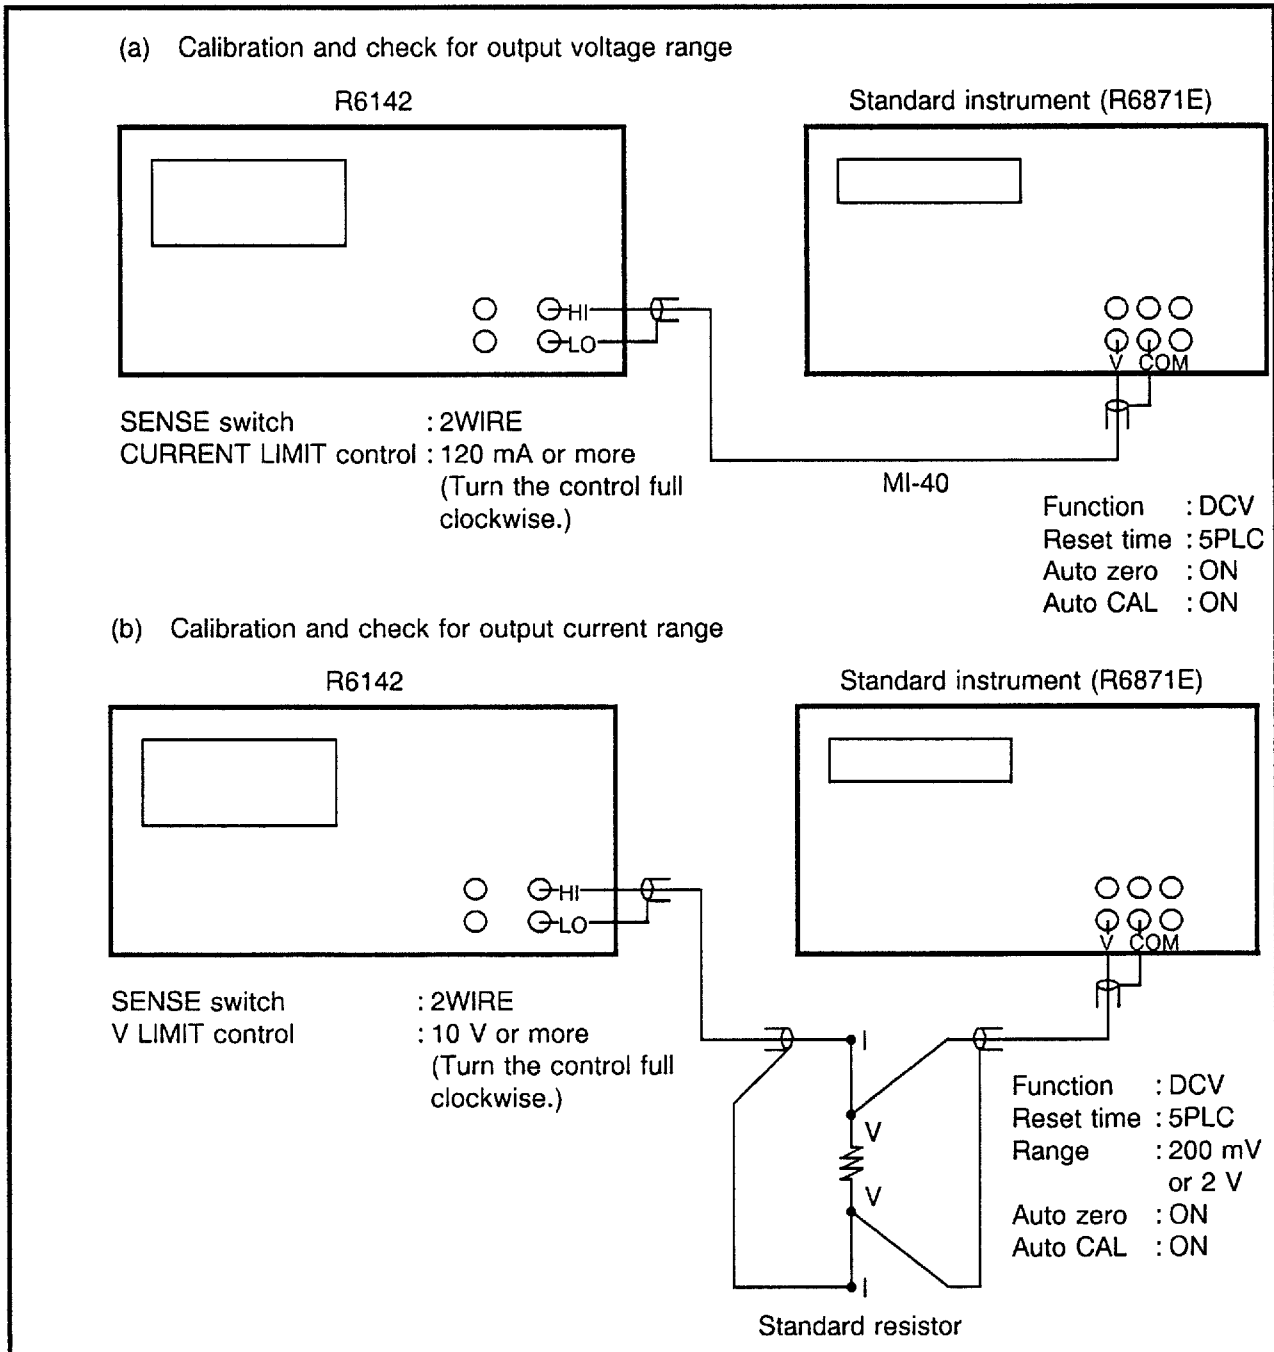

Figure 7-2 Connection with Calibration Instruments and Basic Conditions of Setting
(1) Connection and operation check
- ① Connect the R6142 and a standard instrument. Figure 7-2 shows the connection and basic conditions of setting.
(See Figure 7-2 "Connection with Calibration Instruments and Basic Conditions of Setting.")